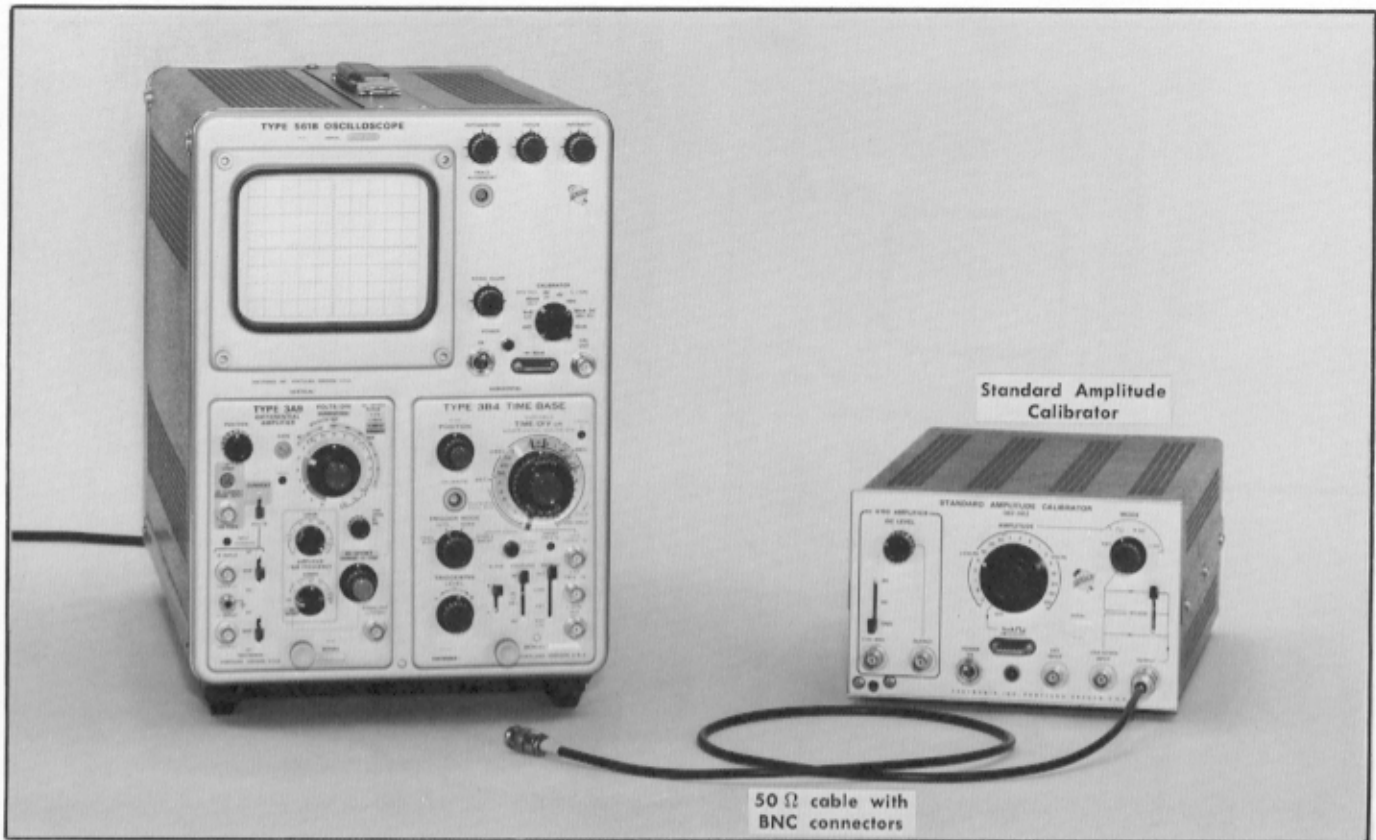

Fig. 5-11. Equipment required for steps 12 and 13.
12. Check or Adjust Cross Neutralization (C131) ❶
- a. Test equipment is shown in Fig. 5-11.